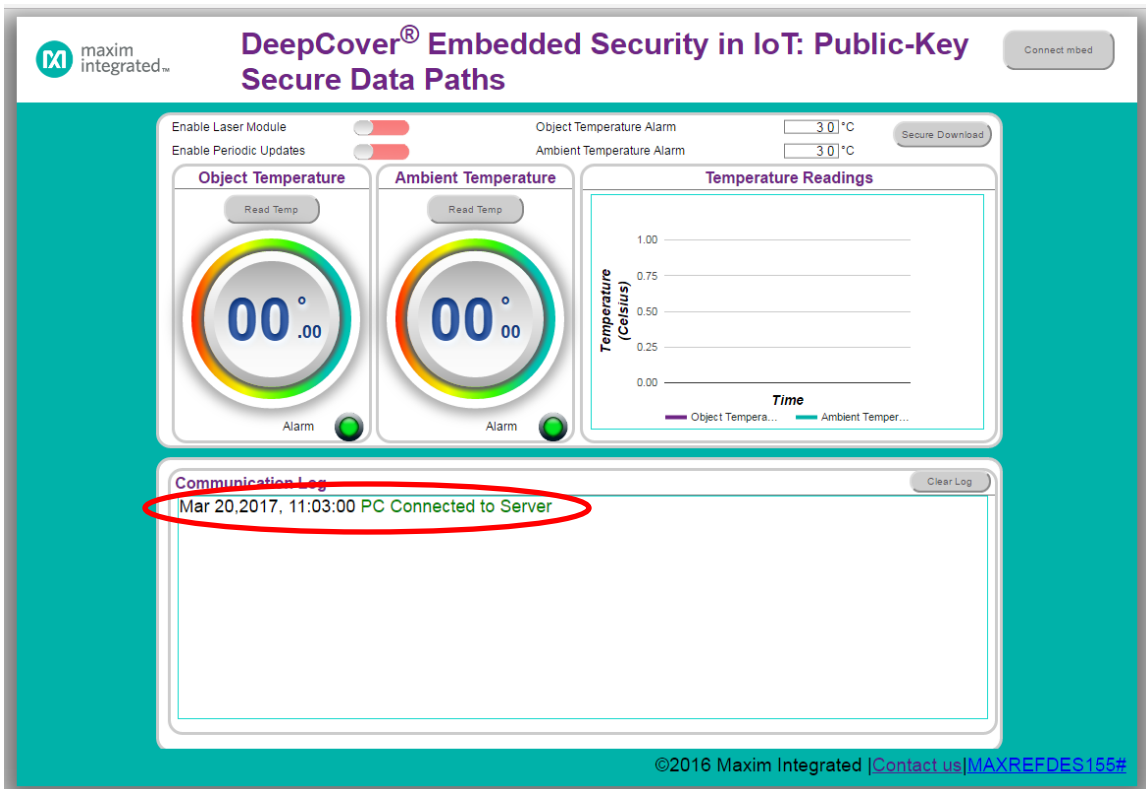

Figure 12. Verify the PC Connected to Server.
6. Verify the PC is connected to the web server as shown in **Figure 12**.